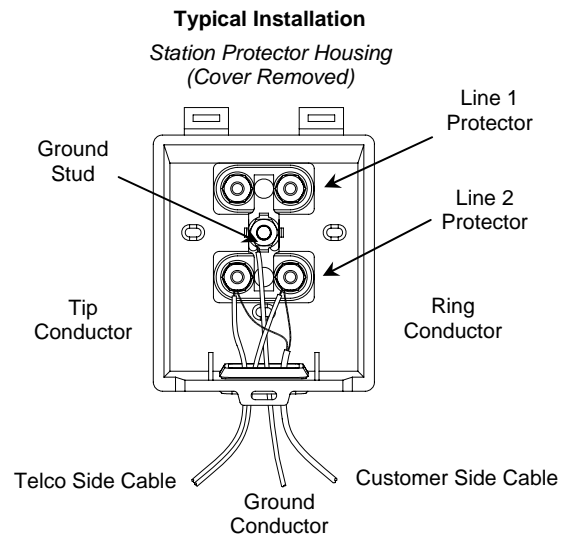

Figure 1
2. Slide the surge protector ground clip of under the nut and washer. Tighten down the nut (Figure 1).
3. Ground the module using a No. 6 AWG solid copper insulated ground wire. Connect one end of the ground conductor to the appropriate ground stud and the other end to an appropriate ground source (Figure 1).